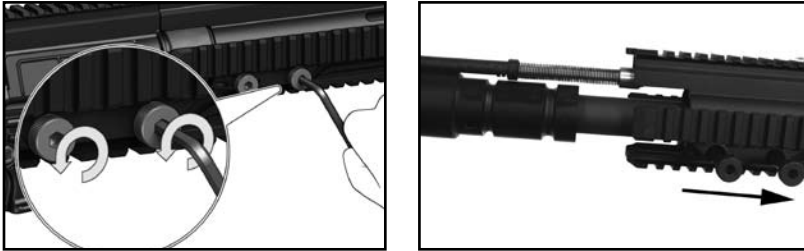

Fig. 31 – Loosening the FFRS screws with hex (Allen) wrench
- a. Insert a 5mm hex (Allen) wrench into the retaining screw located on the lower right hand side of the Free Floating Rail System (handguard) and rotate counter clockwise (Fig. 31). Once loosened, drift out the retaining screw from left to right until the retaining screw reaches its limit of lateral travel.